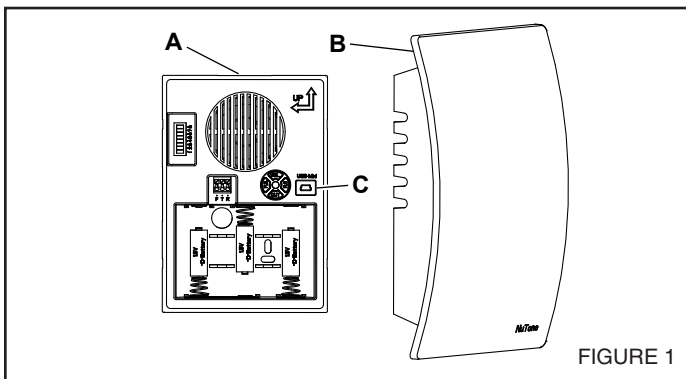

FIGURE 1
1. Remove chime cover (B) from chime base (A). You may need to insert a finger into the large hole on the back of the chime base. (Figure 1)
1. Insert a USB Mini cable end into the doorbell mechanism USB jack (C). (Figure 1)
- Place cover (B) over chime base (A) and press down to install. A "click" will confirm that it is securely attached. (Figure 1)
11. Place cover (B) over chime base (A) and press down to install. A "click" will confirm that it is securely attached. (Figure 1).